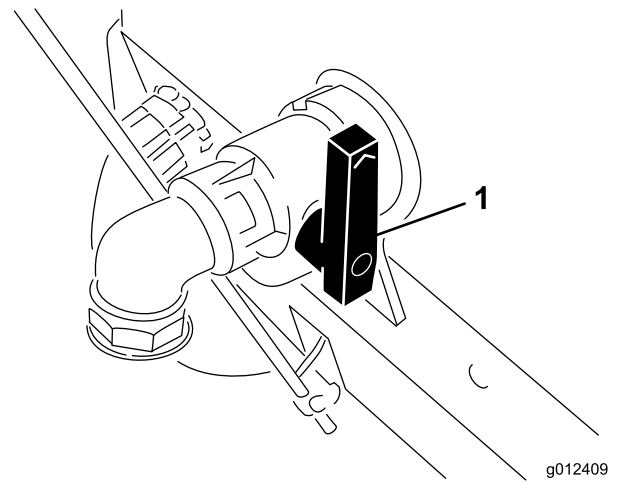

Figure 31
3. Open the paint tank drain valve (Figure 31). The farther the drain valve is opened the more paint is allowed to drain.